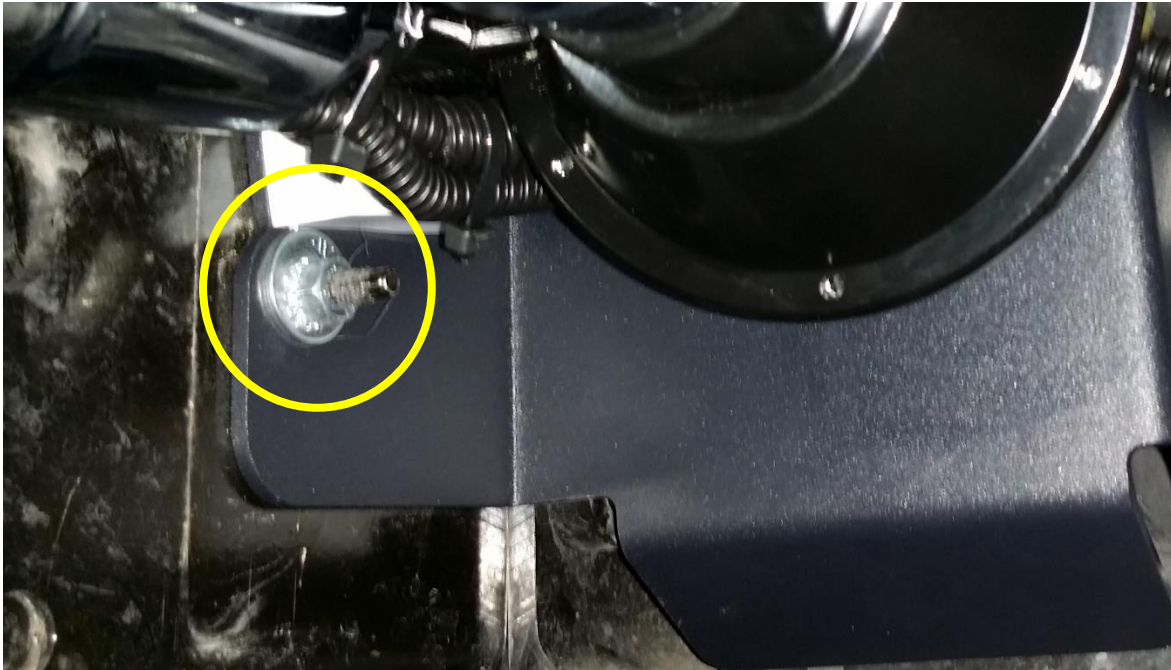

Figure 8 - JL-301 Attached to Frame Stud
10.1.4. Install Hardware #5, #9, & #11 on frame stud, as shown circled in Figure 8 below.